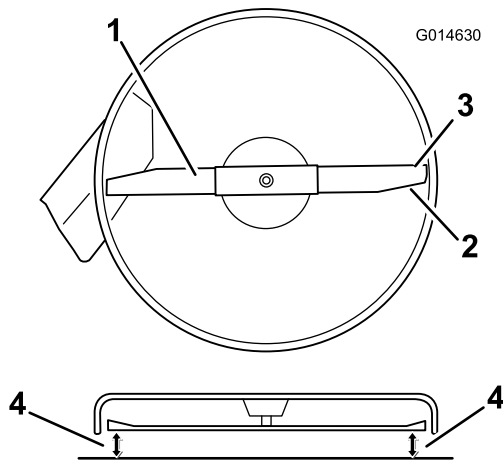

Figure 49
4. Carefully rotate the blade(s) so that they are all side to side (Figure 49).
5. Measure between the outside cutting edges and the flat surface (Figure 49). If both measurements are not